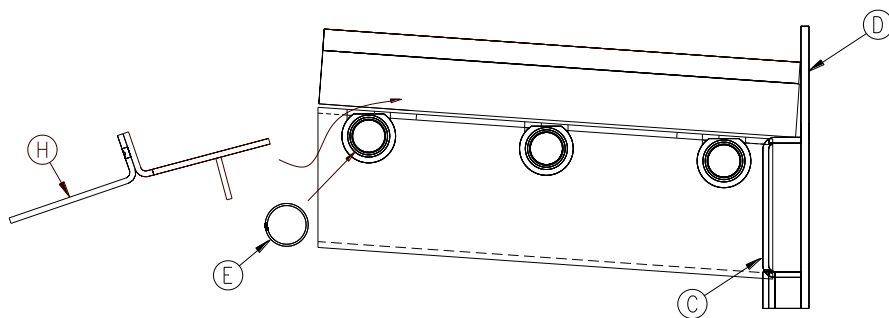

Figure 4.4c
- Install the baffle support/extension (H) ensuring that it fits between the front risers and hold it in place. Install the front secondary air tube as show in figure 3.4c ensuring air holes face forward. Install the cotter pins as in fig 4.4c. Installing the front secondary air tube (E) will stabilize baffle assembly during the next step.